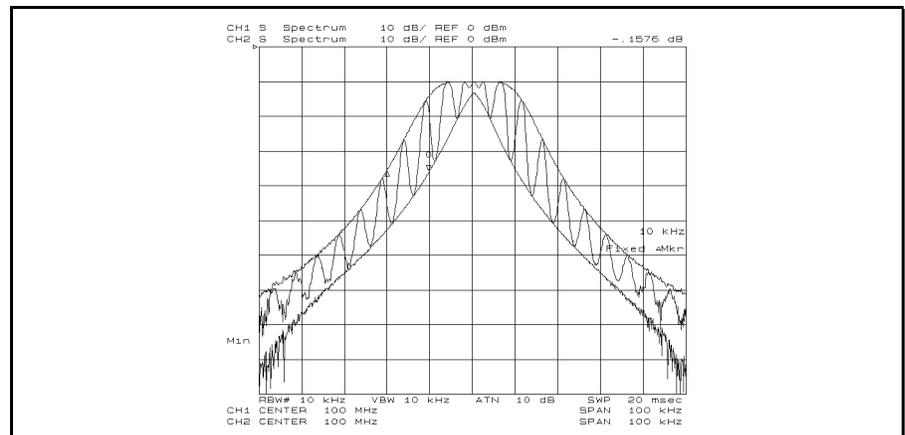

Figure 4-18. Superimposing Spectrum and Envelopes
12. Press **MORE** **SPLIT DISP** on **off** to **on** **OFF**. The analyzer superimposes the spectrum on the envelopes as shown in Figure 4-18.